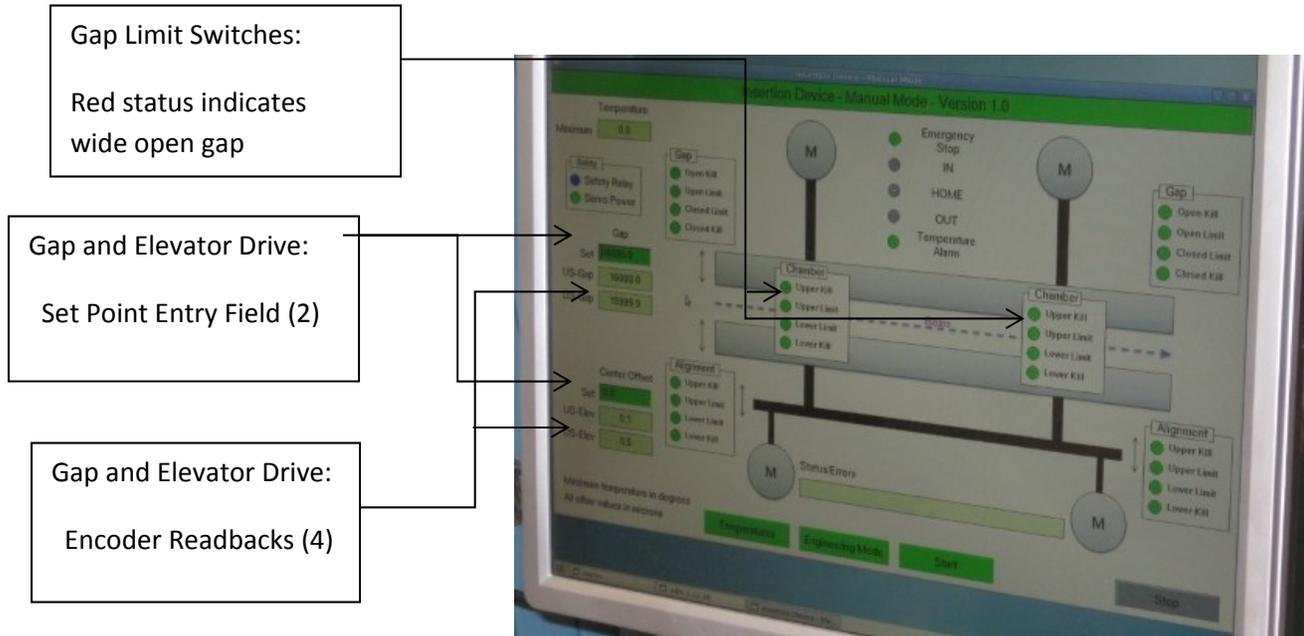

Figure 6-1: DW Control Screen
6.1.5 In Operations (or Manual) Mode, command the Gap Drive System to drive to a mid gap position (e.g., 50mm, see Figure 6-1.)
6.1.6 Confirm that the gap set point has been reached by viewing the gap encoder readback at the control screen (see Figure 6-1).
6.1.9 Confirm the fully open gap position (nominal 150mm) by viewing the gap encoder readback at the control screen (see Figure 6-1).
- a. Command the Gap Drive System to drive to mid gap position (e.g., 50mm, see Figure 6-1).
- a. In Operations (or Manual) Mode, command the Gap Drive System to drive to a mid gap position (e.g., 50mm, see Figure 6-1.)
- b. Confirm that the gap set point has been reached by viewing the gap encoder readback at the control screen (see Figure 6-1).